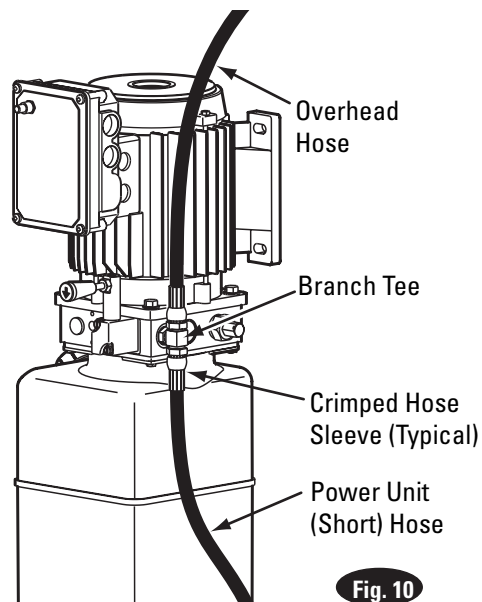

Fig. 10
**10. Hoses:** Clean adapters and hose. Inspect all threads for damage and hose ends to be sure they are crimped, Fig. 10. Install hose and hose clamps, Fig. 12 & Fig. 16.